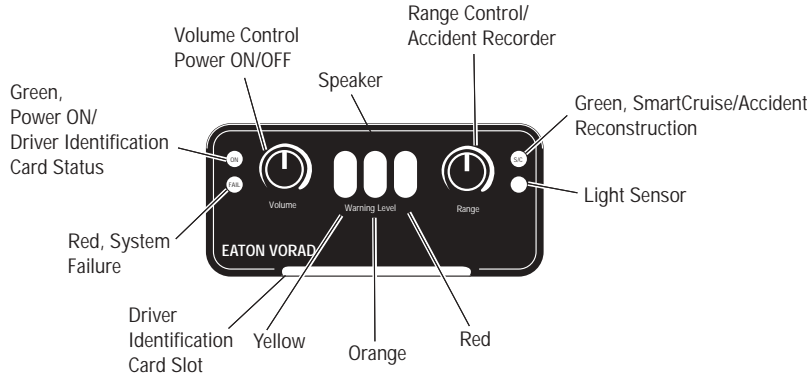

Figure 8
If the system configuration requires a Driver Identification Card, (see Figure 10), it must be inserted into the slot provided on the front of the Driver Display Unit (see Figure 8, page 13). After the system is powered on, insert the card into the slot with a smooth steady continuous motion. Allow approximately one (1) second to ensure the reading of the bar code. A high-pitched confirmation tone will sound when the card is correctly scanned. *The card should be removed and stored in a safe place until required again.* If the bar code is not scanned correctly, one low-pitched tone will be heard.
The "RANGE" control knob (see Figure 8, page 13), adjusts the SmartCruise "following intervals". The SmartCruise system will either maintain the selected following interval between the host vehicle and a vehicle ahead or, in the case of no target vehicle, the set cruise control speed. The following interval takes precedence over the set cruise control speed.